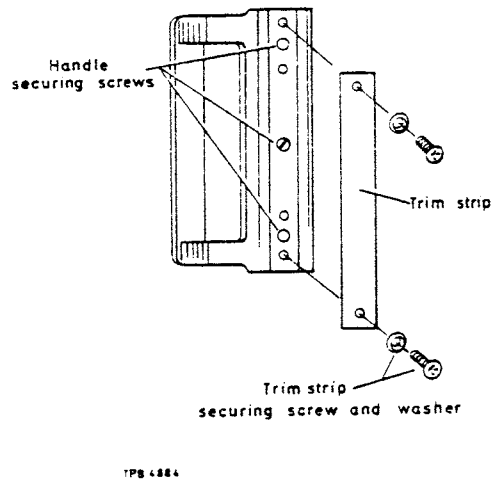

Fig. 3b Handle assy.
28. First remove the right-hand side front handle trim infill and handle as shown in Fig. 3b. Then remove the front trim infill followed by the trim strip held by four screws. Four further screws, two on the top and two on the bottom secure the assy. The two bottom screws can be easily accessed using a long handled screwdriver. A mounting plate is also used to position the assy. correctly, this is placed on top of the assy's. bottom flange.